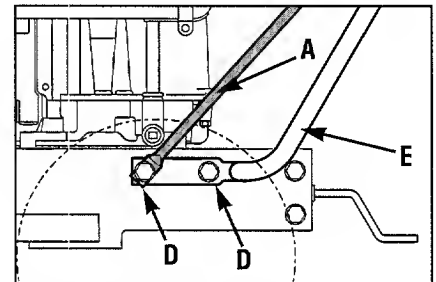

Figure 2-2B: Attach handlebars and bottom of struts to engine deck.
2. Remove and save two 5/16" screws securing ends of handlebars to engine deck. To free handlebars from shipping position, raise the two handlebar struts (A, Figure 2-2B) to a 45° angle. From front of machine, tilt right-side handlebar up over engine air cleaner and then lift other handlebar upward. Rotate handlebars over engine and position bottom of handlebars against sides of deck (see Figure 2-2B).
NOTE: Four screws (D, Figure 2-2B) are used to connect the handlebars to the engine deck. The screws thread into lock nuts welded to the back sides of the deck.
4. Swing the struts to 45° forward. Align the handlebar ends (E, Figure 2-2B) with the holes in the engine deck. Install two 5/16" hex flange screws (D, Figure 2-2B) into the *rear* holes and tighten.
5. Position both struts (A, Figure 2-2B) so the ends are aligned over the *front* holes in the handlebar ends. Secure the struts and handlebars with two 5/16" hex flange screws. Tighten all four screws. Tighten nuts "C."